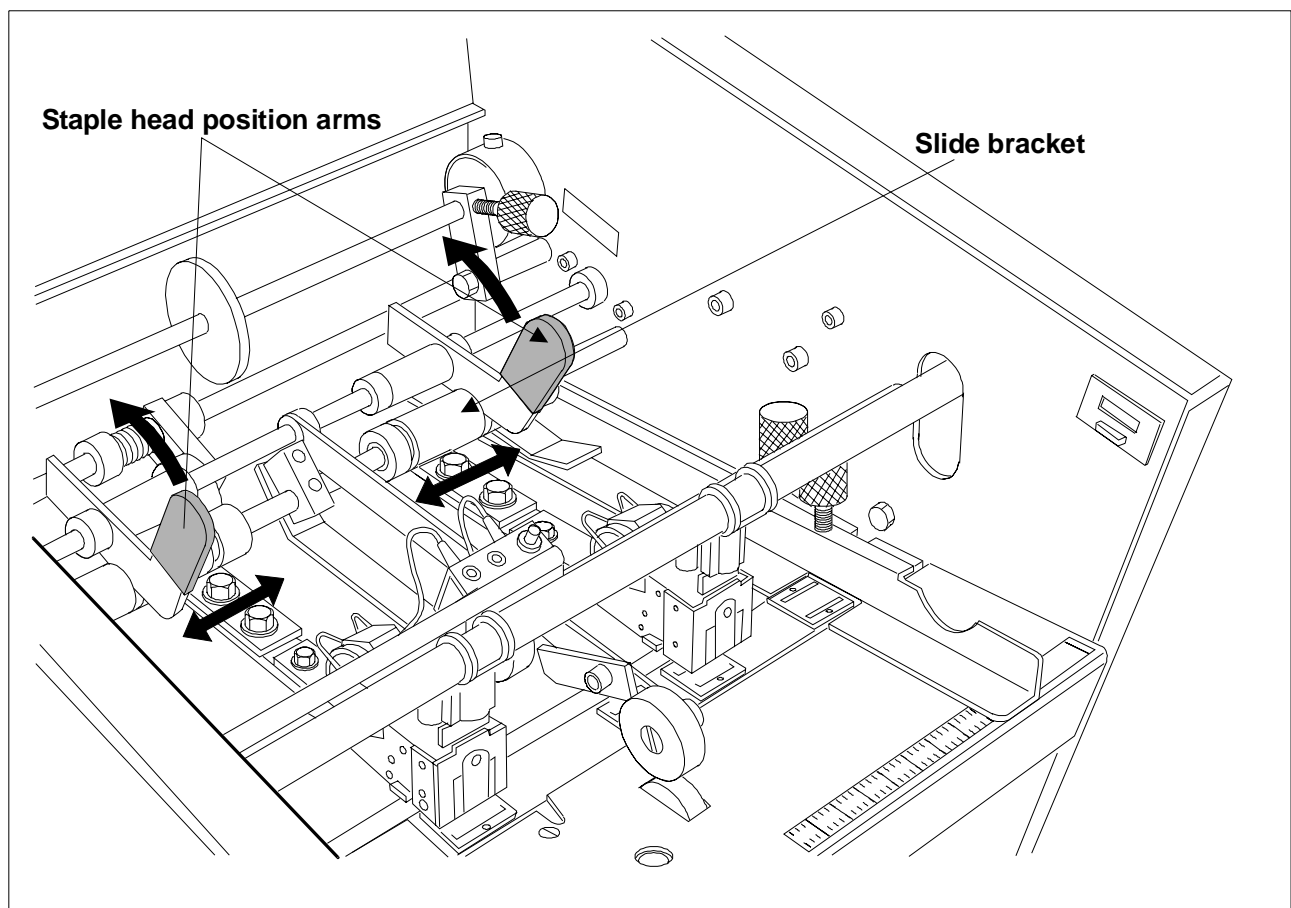

Figure 7 - Stapling head adjustment and anvil positions
1. To move the stapling heads to the alternative positions, lift the stapling head position arm, figure 7, then slide the entire stapling unit to the new position.